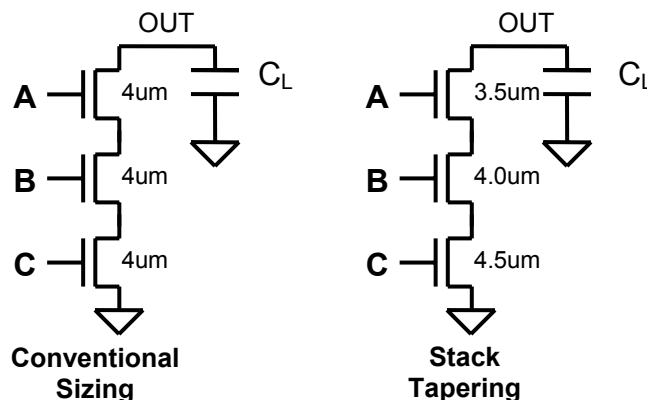

Figure 4.5
- Consider a stack of 3 NMOS devices in series connected to ground (as in a 3 input NAND). Calculate the delays (Elmore delay) for an initial sizing of 4, 4, 4 μ m and a stack tapered sizing of 3.5, 4 and 4.5 μ m (see Figure 4.5 below). Assume that $C_L=20$ fF includes all relevant capacitances at the output node and you may use the 0.6fF/ μ m of device width approximation for C_{db}/C_{sb} . What percent improvement is seen when stack tapering is used?